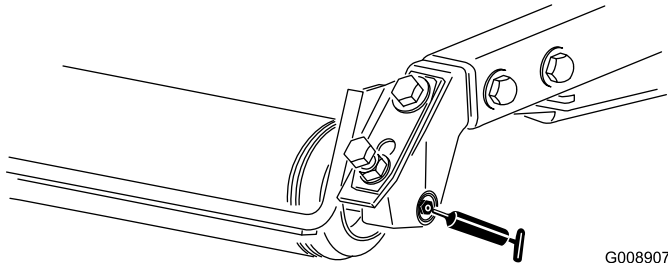

Figure 36
- Rear-roller bearings (2 per cutting unit) (Figure 36)